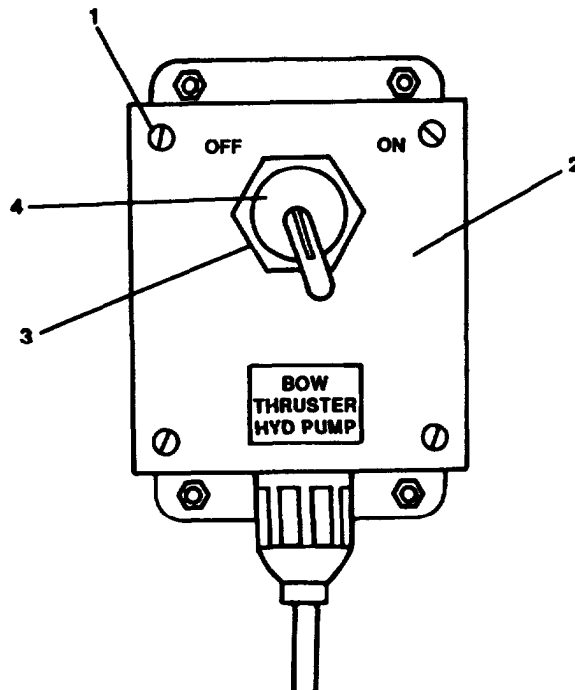

FIGURE 2-139. Rotary Switch. Removal.
- a. Remove Rotary Switch. (FIGURE 2-139)